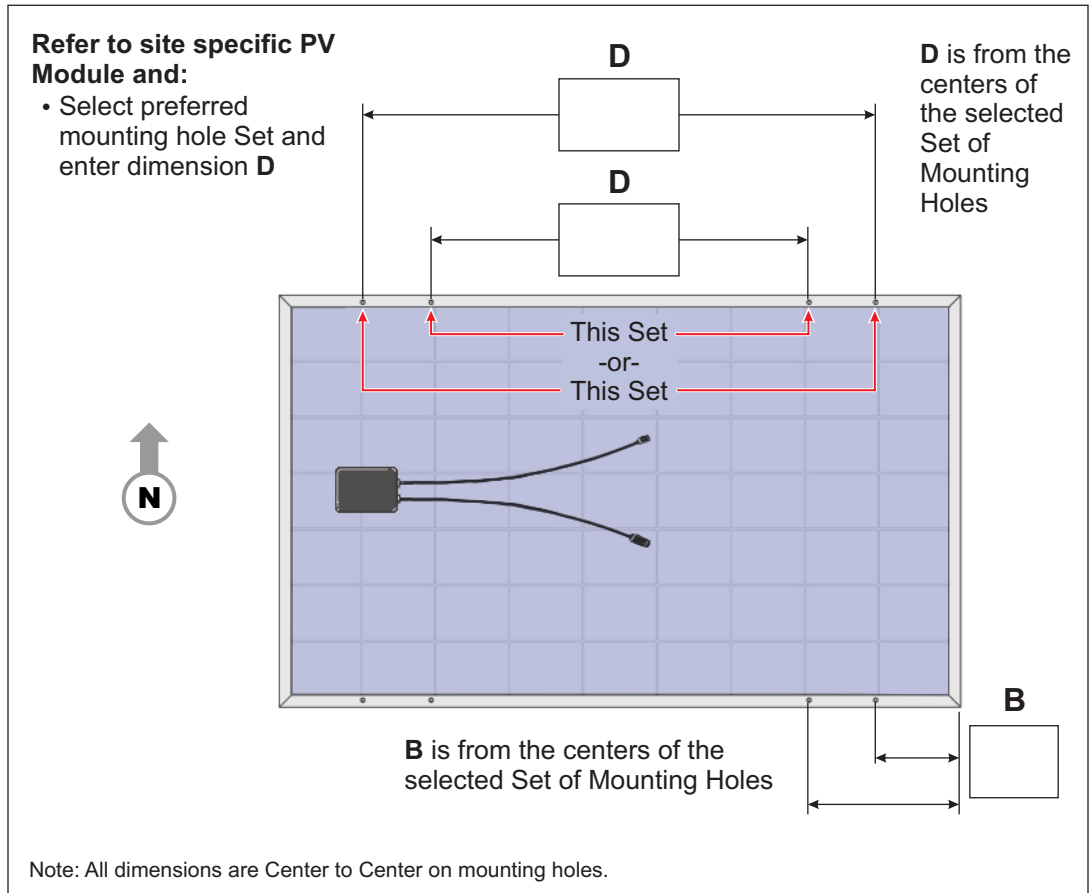
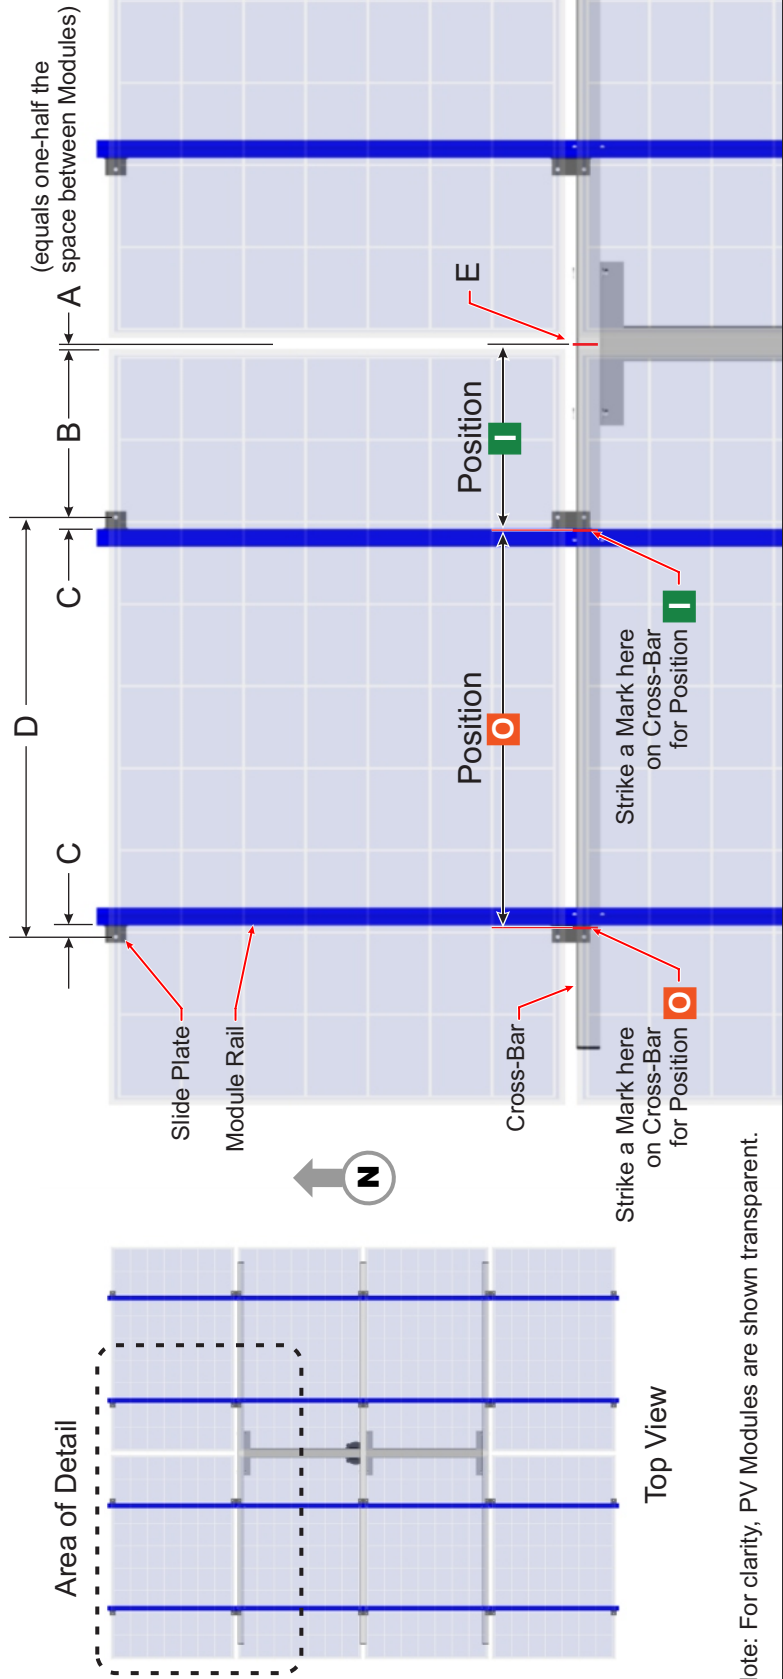

Figure 1-2: Select PV Module Mounting Hole Set, Record Dimensions B and D
Figure 2-1: Module Rail Positioning Calculator
PV Modules typically have several mounting hole patterns within their frames. Evaluate the site specific Modules and select the mounting hole(s) set to be used in this installation. Once selected, measure (or refer to the PV Modules spec sheet) the hole span dimensions and note these dimensions in figure 1-2 for later use.
- Most PV Modules have multiple sets of mounting holes that run along their long dimension, or in this case the D factor shown in Figure 1-2. Any set may be used so long as the holes accept the 1/4" mounting hardware.
- Two dimensions will be used to calculate and establish the exact placement of components. They are identified as B and D in Figure 1-2.
Now fill in the blank fields B and D on Figure 1-2.
- Enter dimensions B and D from figure 1-2, into their respective fields of the Module Rail Positioning Calculator. (Figure 2-1)
- Using calculations I and O from figure 2-1, measure from the center point outward and mark positions I and O on each of the three Cross Bars as shown below.